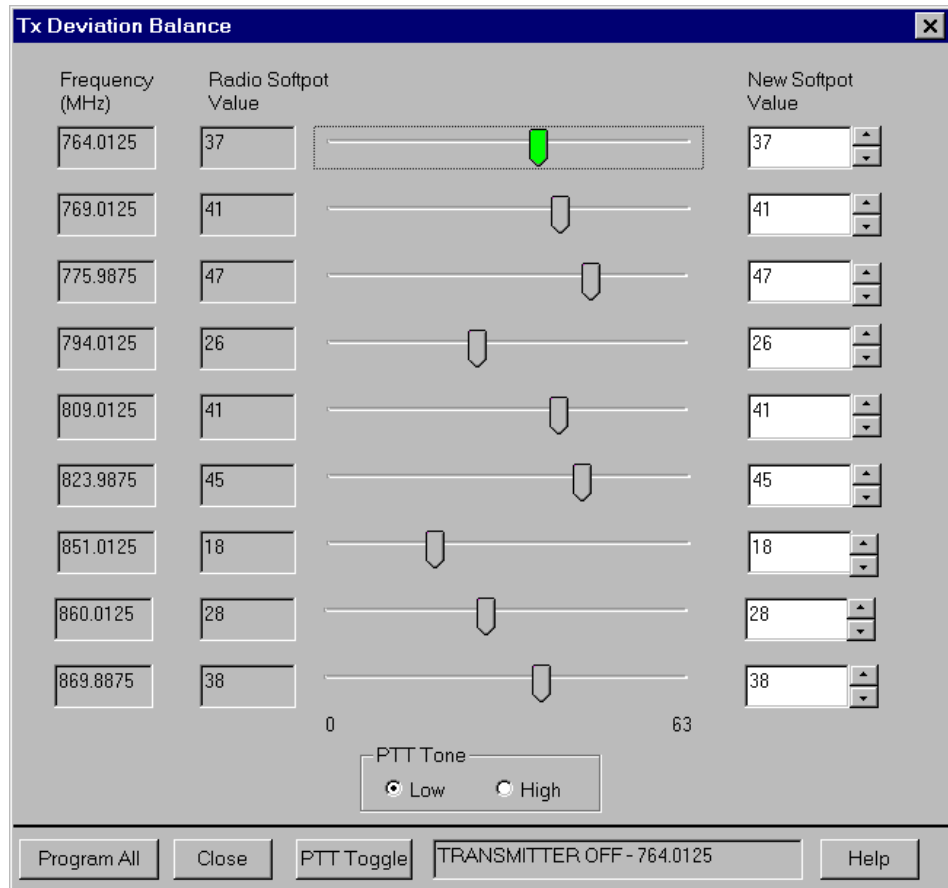

Figure 10. Transmit Deviation Balance Alignment Screen
1. Select the **TX Deviation Balance** alignment screen. The screen will indicate the transmit frequencies to be used. See Figure 10.